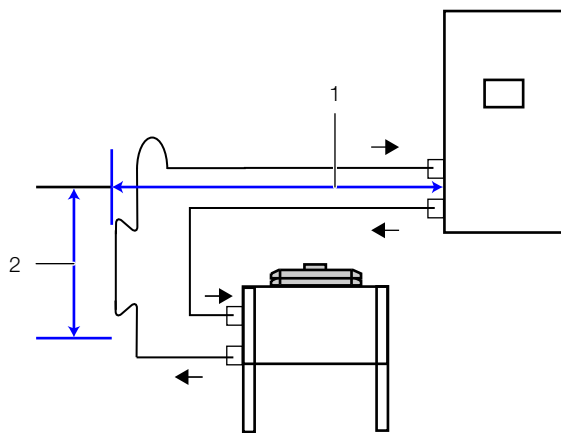
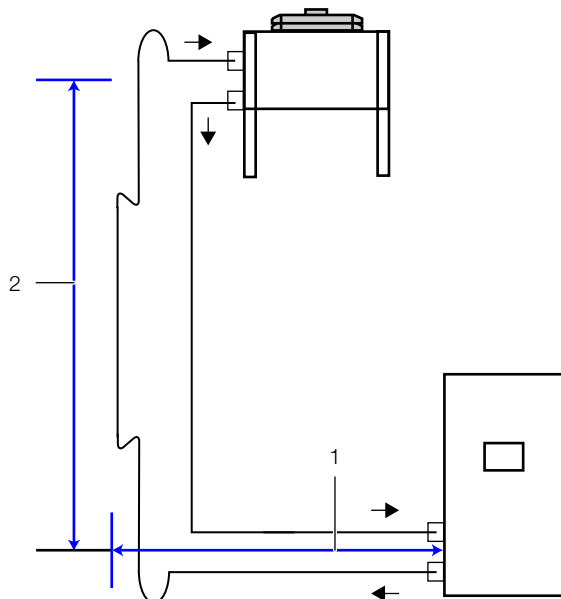

Fig. 11: Relative positioning condenser below the LCP DX
Fig. 12: Relative positioning above the LCP DX
Sum total of horizontal (fig. 11, item 1) and vertical spacing (fig. 11, item 2 or fig. 12, item 2) between the LCP DX and the condenser	Max. 45 m equivalent length
Condenser above LCP DX (fig. 12, item 2)	max. 20 m
Condenser below LCP DX (fig. 11, item 2)	max. 3 m